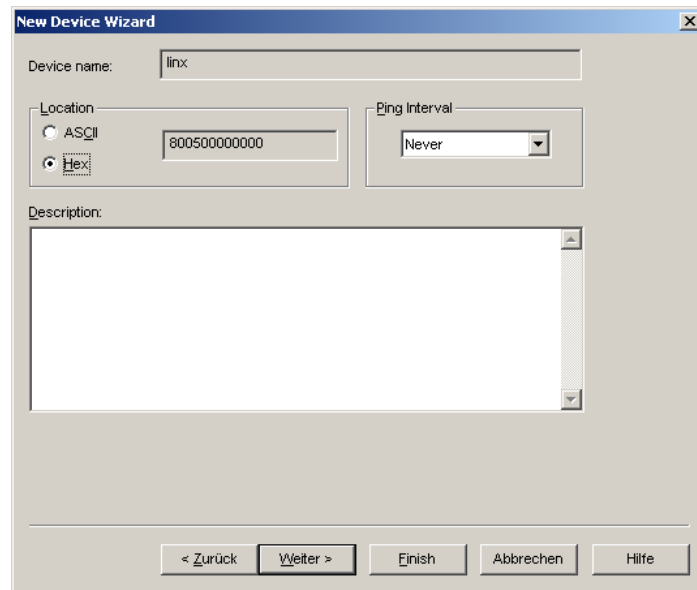

Figure 74: Leave defaults for Location.
5. The following dialog shown in Figure 74 appears, click **Next**.